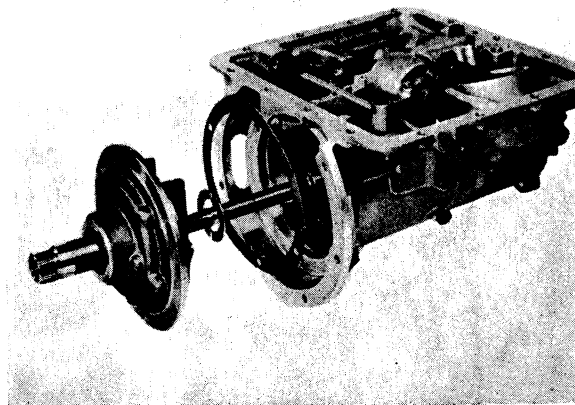

Fig. 4-107. Installation sequence, front pump assembly
21. Stick on the thrust washer with vaseline and then fit the pump with a new gasket on the transmission case, see Fig. 4-107. Re-check the axial play in accordance with point 21, page 4:34.